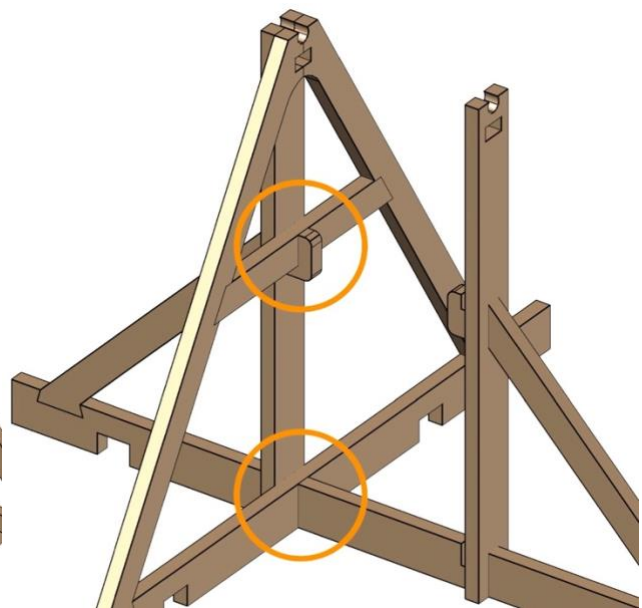

Fig. 12
- Fig. 12 shows the completed process.